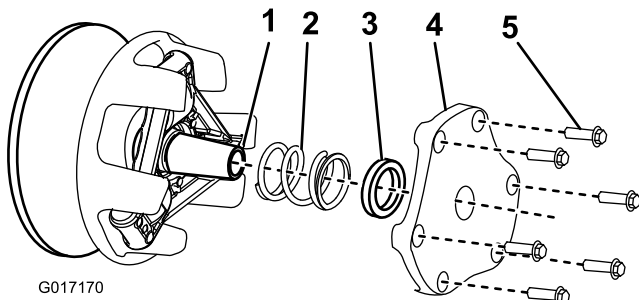

Figure 34
3. Remove the 6 flange-head bolts securing the clutch cover. Set aside the cover, spacer, and spring (Figure 34).